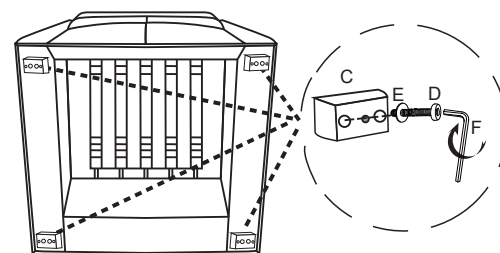

Figure 2
Attach the Legs (C) to Seat (B) by placing the Flat Washer (E) onto the Bolt (D). Then use the Allen Wrench (F) to tighten the Bolt (D) until the Legs (C) are tight. (See Figure 2.)